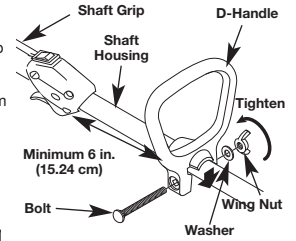

Fig. 1
1. Push the D-handle down onto the shaft housing so that the squared bolt hole in the handle is to the right (fig. 1).
2. Insert the shoulder bolt into the squared hole in the handle and push through. On the left side of the handle, place the washer on the bolt, then screw the wing nut onto the bolt. Do not tighten until you make the handle adjustment (Fig. 1).